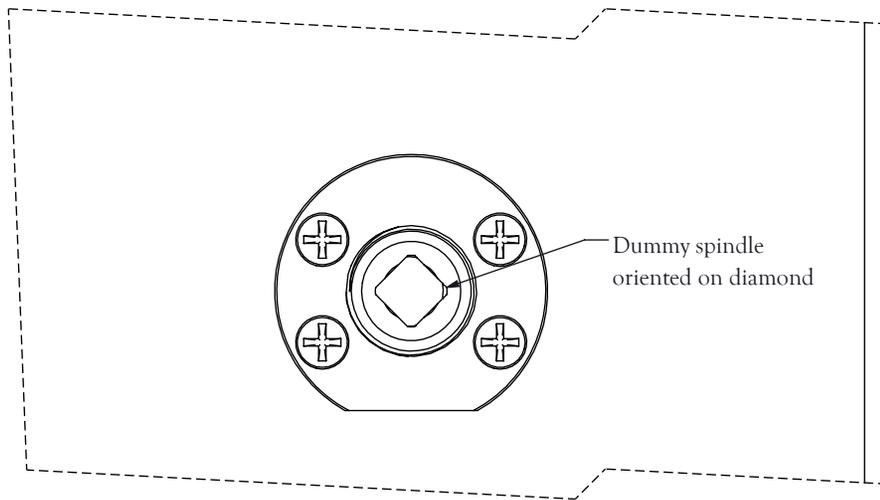

Figure 4
**Step 1:** Mount the dummy spindle to the door face, with the spindle oriented on the diamond. (See Fig. 4)
**Step 2:** Thread the rose (A) onto the dummy spindle.